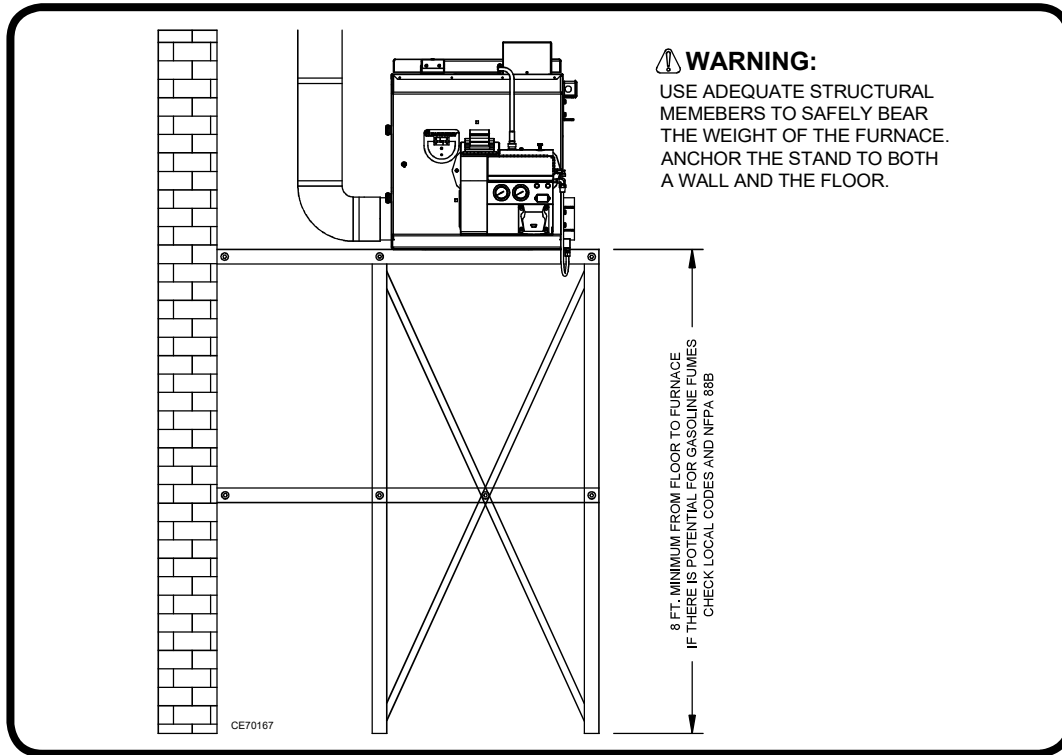

Figure 13: Typical Furnace Mounted on a Stand
- (1) Refer to Figure 13 for a typical furnace mounted on a stand.
- (2) The material used must be adequately sized to support the weight of the furnace.